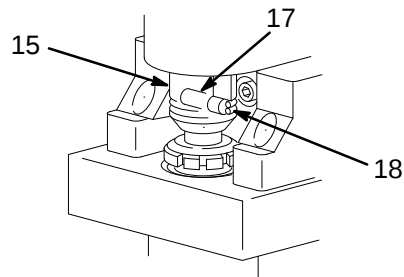
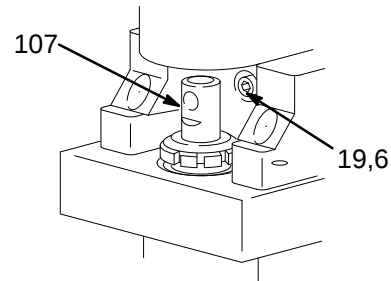
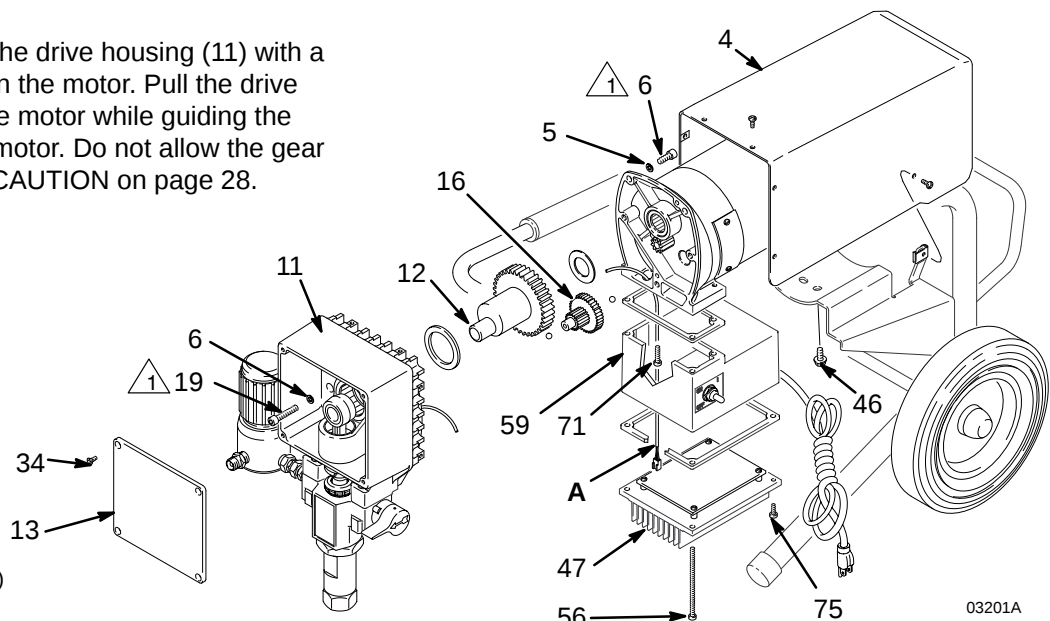

Fig. 24
Fig. 25
Fig. 26
NOTE: See Fig. 26 except where noted.
1. Try to stop the pump with the piston rod (107) in its lowest position. To lower the piston rod manually, remove the shroud (4) and rotate the motor fan blades. Use a screwdriver to push the retaining spring (18) up and push out the pin (17). See Fig. 24.
3. Remove the motor shield (4).
4. Lift the connecting rod. Remove the screws (56,75) and lower the control card (47). Disconnect the motor wires and the pressure transducer wire (A) from the motor control board. Remove the control card (47), screws (71), and junction box (59). Refer to Fig. 26.
5. Remove the drive housing cover (13).
6. Turn the displacement pump rod (107) so the pin hole aligns with the bottom drive housing screw (19). See Fig. 25. Remove the three drive housing screws and lockwashers (19,6). See Fig. 25 and 26.
8. Tap the lower rear of the drive housing (11) with a plastic mallet to loosen the motor. Pull the drive housing straight off the motor while guiding the harness (A) from the motor. Do not allow the gear (16) to fall. Read the CAUTION on page 28.
9. Remove the two screws (46) and lift the motor off the cart (1).
10. Align the new motor with the cart and reinstall the screws (46).
2. Remove the screws (56,75) and lower the control card (47). See Fig. 26.
2. Remove the screws (56, 75) and lower the control card (47). See Fig. 26.